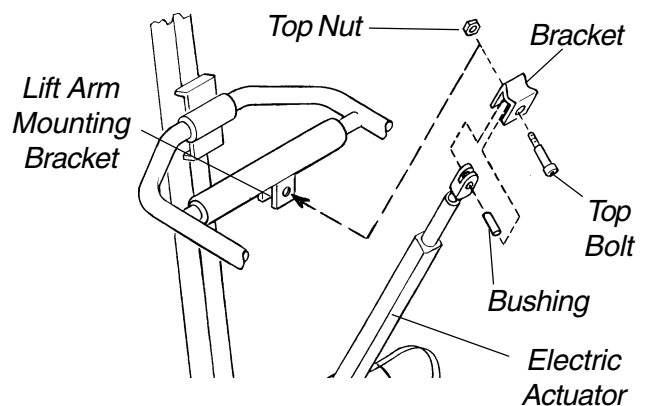

FIGURE 2 - ATTACHING ELECTRIC ACTUATOR TO MAST
### ATTACHING ELECTRIC ACTUATOR TO MAST (FIGURE 2)
2. Position the electric actuator in the lift arm mounting bracket as shown in **FIGURE 2**.